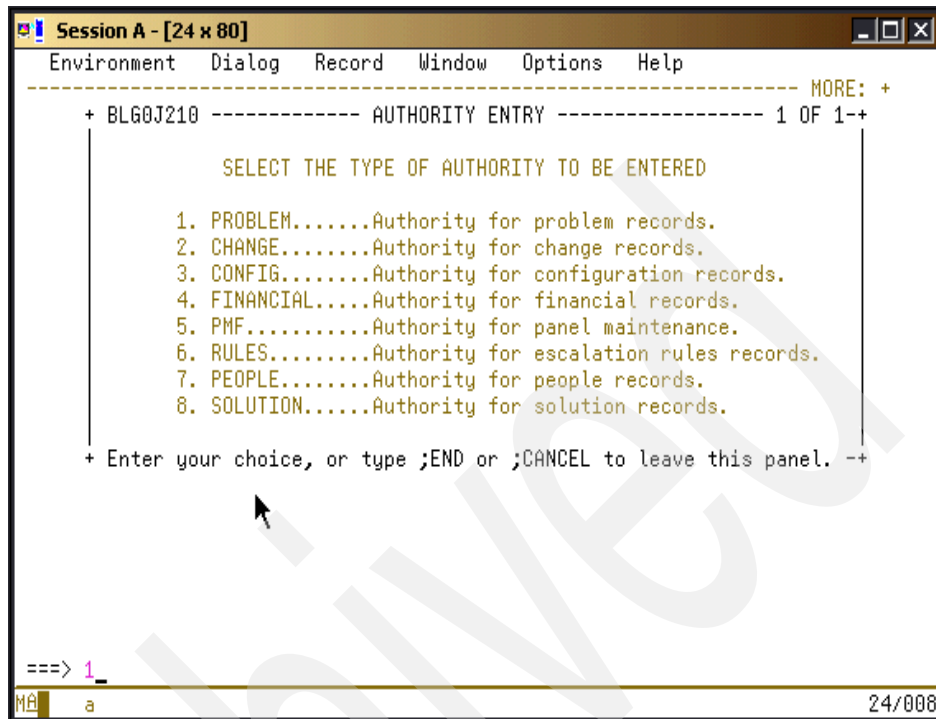

Figure 2-10 Authority Entry panel with different types of management applications
6. Select option **2 - MANAGEMENT**. The AUTHORITY ENTRY panel shown in Figure 2-10 on page 64 displays.